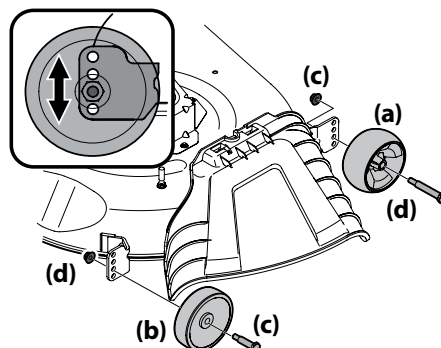

Figure 2-21
- b. Remove the front (a) and rear (b) deck wheels by removing the flange lock nuts (c) and shoulder bolts (d) that secure them to the deck. See Figure 2-21.